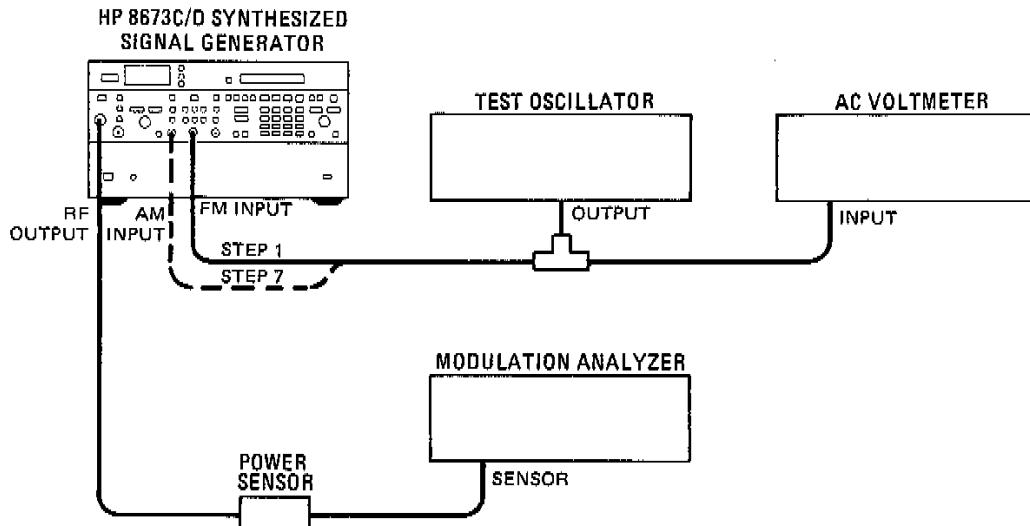

Figure 4-4. FM/AM Accuracy Test Setup
1. Connect equipment as shown in Figure 4-4.